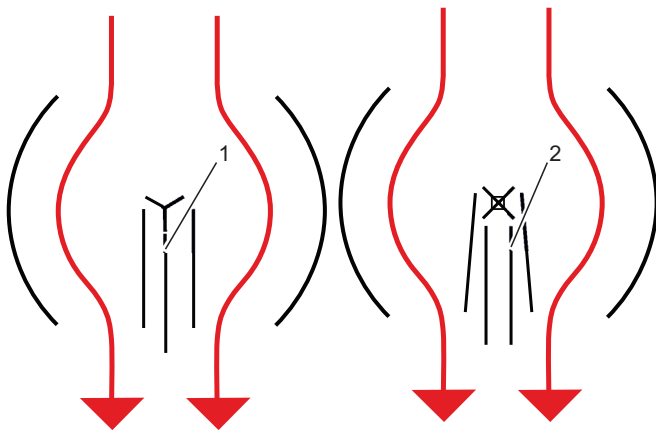

Fig. 50 Emergency exit position (3 and 4 wings)
8. Orient the folded wings (Fig. 50) at the exit as shown in Fig. 50.
- » The revolving door can be used as an emergency exit (Fig. 50).